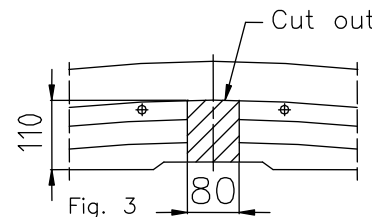

Fig. 3 Cut out
3. To the left and right chassis member slip sleeve  $L=85$ mm (pos. 10), see fig.
4. To drilled holes put sleeves  $L=51,5$ mm (pos. 9).
5. To the inside of chassis members and rear part of the car put brackets (pos. 4 and 5) and fix using bolts  $M10 \times 120$ mm (pos. 11) through sleeves and bolts  $M10 \times 35$ mm (pos. 13) through nuts on the jib (pos. 8).
6. Put the main bar of the towing hitch (pos. 1) on protruding elements (bolts) of removed metal reinforcement and fix using original nuts  $M8$  (from reinforcement) and using  $M10 \times 90$ mm (pos. 12) - see fig.
7. Elements of the towing hitch (pos. 6 and 7) fix loosely to the original tow handle, and next through holes (pos. A) of ball brackets fix using bolts  $M10 \times 30$ mm (pos. 14).
8. Fix body of the automat and place tow-ball according to supplied instruction. Note! Remember to place socket plate (pos. 3) as shown on the drawing 1.
9. Assemble a cover plate and a bumper (cut out its fragment – see fig. 3 and 4).